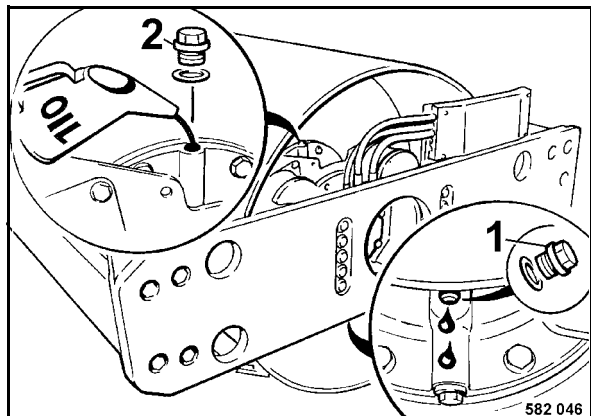

Fig. 85
- Once all oil has been drained off move the drum, until the oil level inspection plug 1 (Fig. 85) is positioned vertically under the hub.